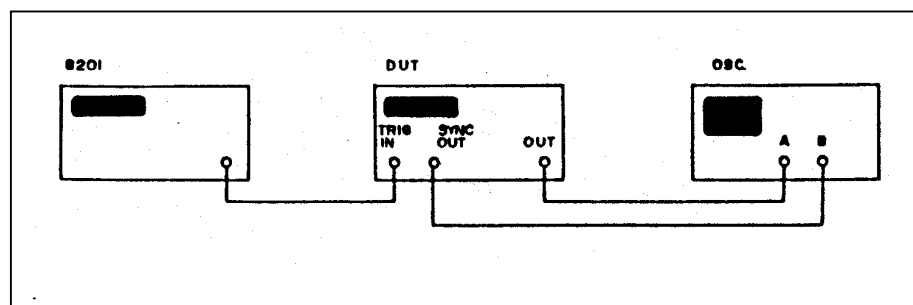

Figure 7-2. First Period Adjustment.
2. Connect the test instruments as described in Figure 7-2.